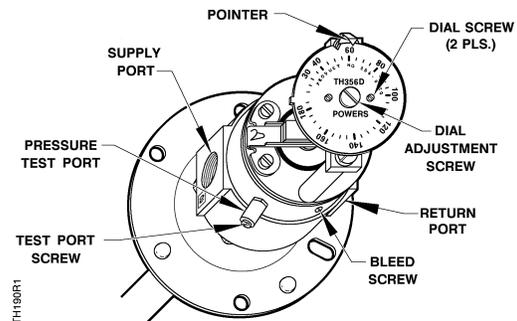

Figure 9. Limitem Cover Removed.
2. With a screwdriver, turn dial adjustment screw (Figure 9) to change to the desired setpoint.
- If a permanent return air gauge is not installed, use the pressure test port. See Figure 9 for its location.
- Loosen the dial screws. (Figure 9)